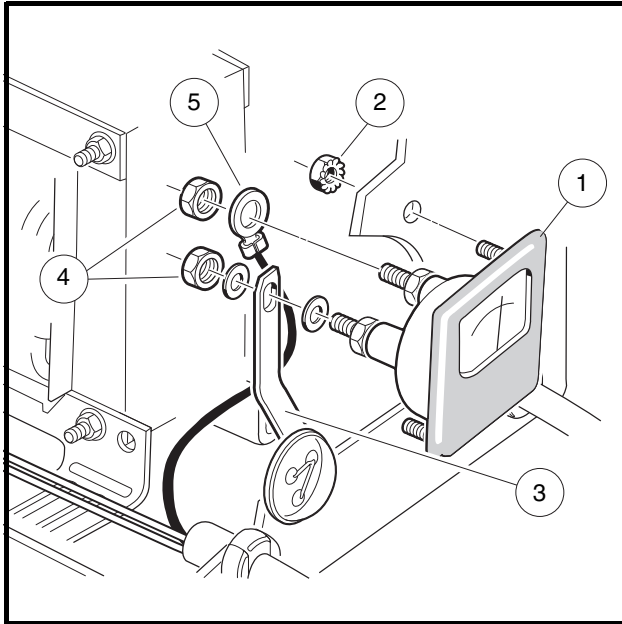

Figure 9-18 Ammeter
3. Disconnect the DC cord black wire (5) and the buss bar (3) from the ammeter (**Figure 9-18, Page 9-25**).
4. Remove the two nuts (2) that secure the ammeter to the charger face.
1. Place the ammeter in position in the charger face (**Figure 9-18, Page 9-25**).
2. Install nuts (2) and tighten until ammeter is firmly secured.
3. Connect the black wire (5) of the DC cord to the left (as viewed from inside the charger) post of the ammeter.
4. Connect the buss bar (3) from the fuse link to the right post of the ammeter. Place flat washers on both sides of the buss bar.
5. Thread nuts (4) onto both posts of ammeter until just past finger tight. While holding the inside nut, tighten the outside nut (4) 1/4 turn. **See following CAUTION.**
3. Remove both black secondary coil transformer wires and the buss bar from the back of the fuse link assembly (**Figure 9-18, Page 9-25**).
2. Install the buss bar (3) over the center branch of the fuse assembly and ammeter post (**Figure 9-18, Page 9-25**). Tighten to 22 in-lb (2.5 N·m).